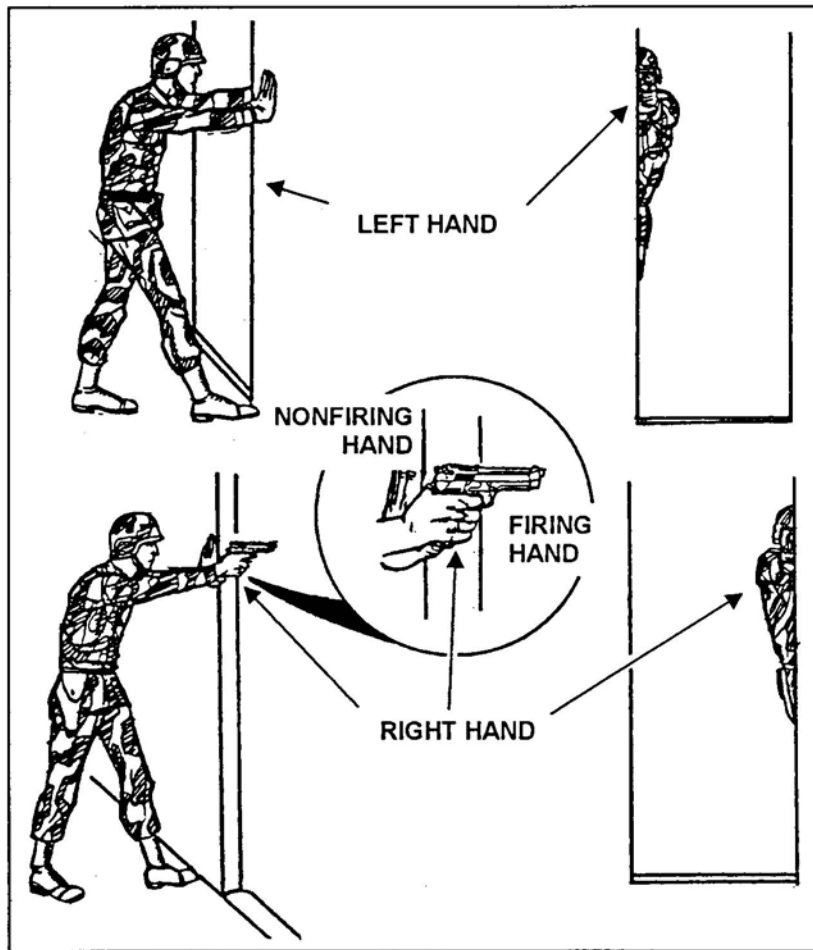

Figure 7. Standing-with-support position.
- b. Standing-with-support (Figure 7). To assume this position--
- (1) Use available cover for support. For example, stand behind a tree or wall.
- (2) Stand behind a barricade, with your firing side in line with the edge of the barricade.
- (3) Place the palm of your nonfiring hand at eye level on the edge of the barricade, and extend your thumb past the edge of the barricade.
- (4) Lock the elbow of your firing arm. Rest your forearm on the extended thumb of your nonfiring hand.